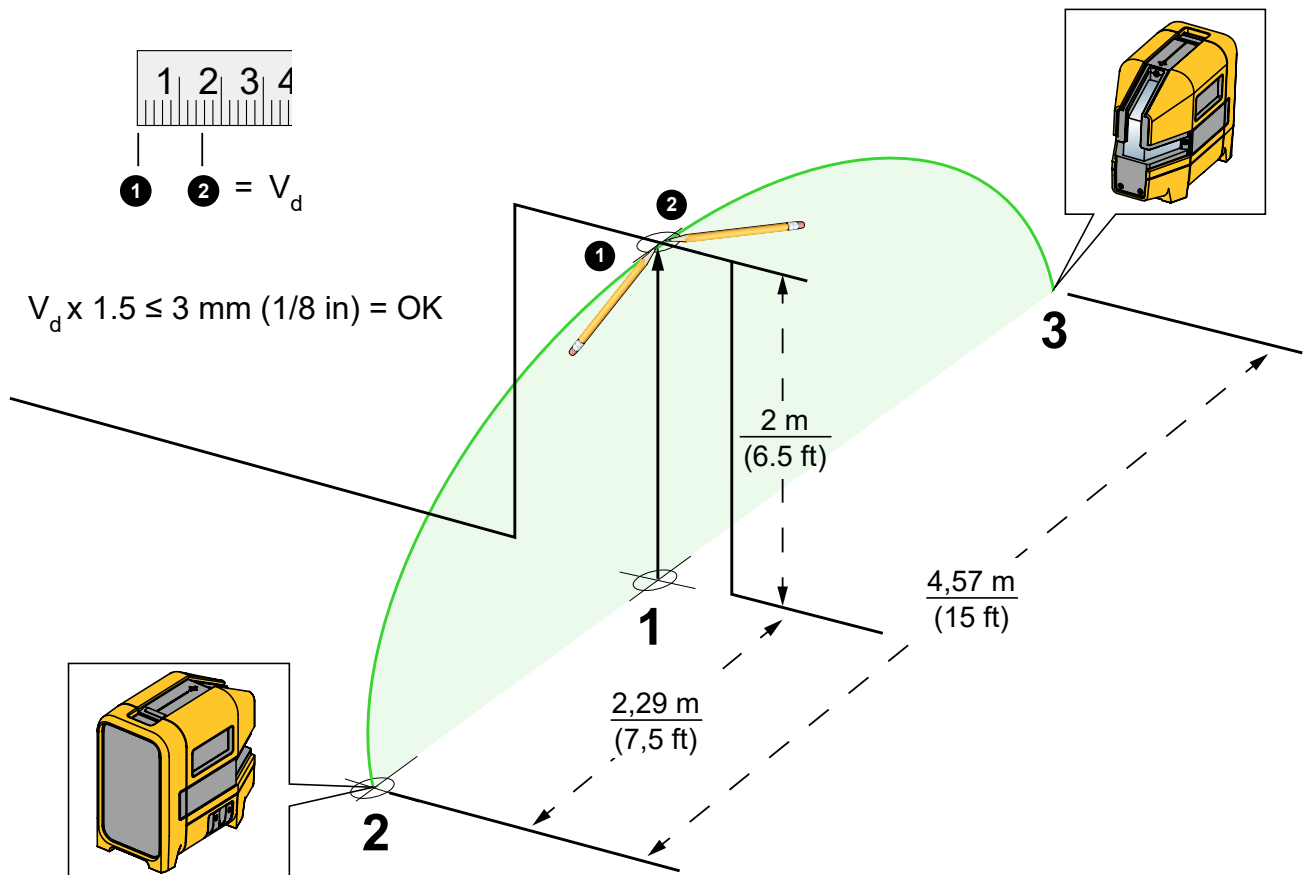

Figure 8. Vertical Laser Accuracy
3. Put a cross mark (mark 1) on the floor centered on the mark on the door header. See Figure 8.